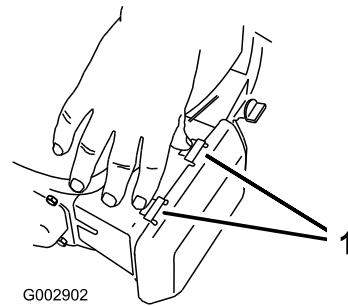

Figure 16
1. Press down on the latch tabs on top of the air-cleaner cover (Figure 16).